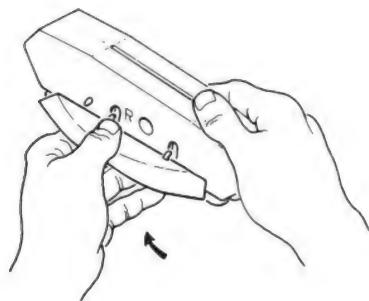

Figure 10
- b) Remove the old wings by bending the wings up toward the sides of the cleaner, and lift them off their hooks (see Figure 10). If any of the wing hooks are broken, take the Navigator to your dealer for pod replacement as the unit will not function properly if the wings are not properly attached.